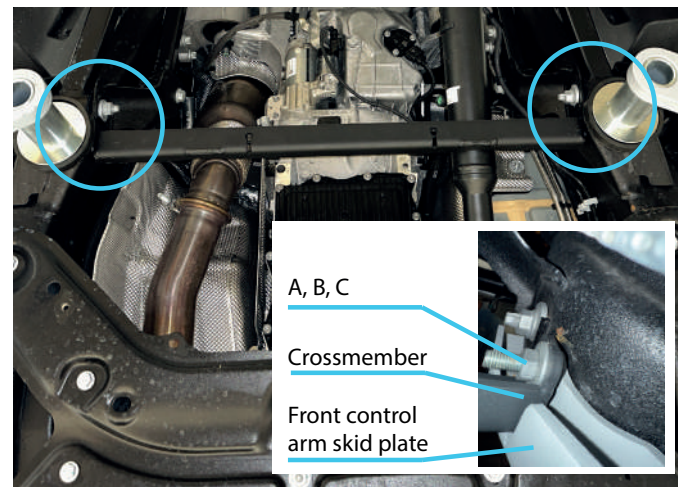

Fig. 4
*If you are installing with the RIVAL engine skid plate, unbolt the crossmember and remove the spacer from step 3 of the RIVAL engine skid plate installation manual. Install the front control arm skid plates (items 3&4) between the skid plate crossmember and frame using M10x140 bolts, M10 washers, and M10 nuts (items A,B,C) (Fig. 4).